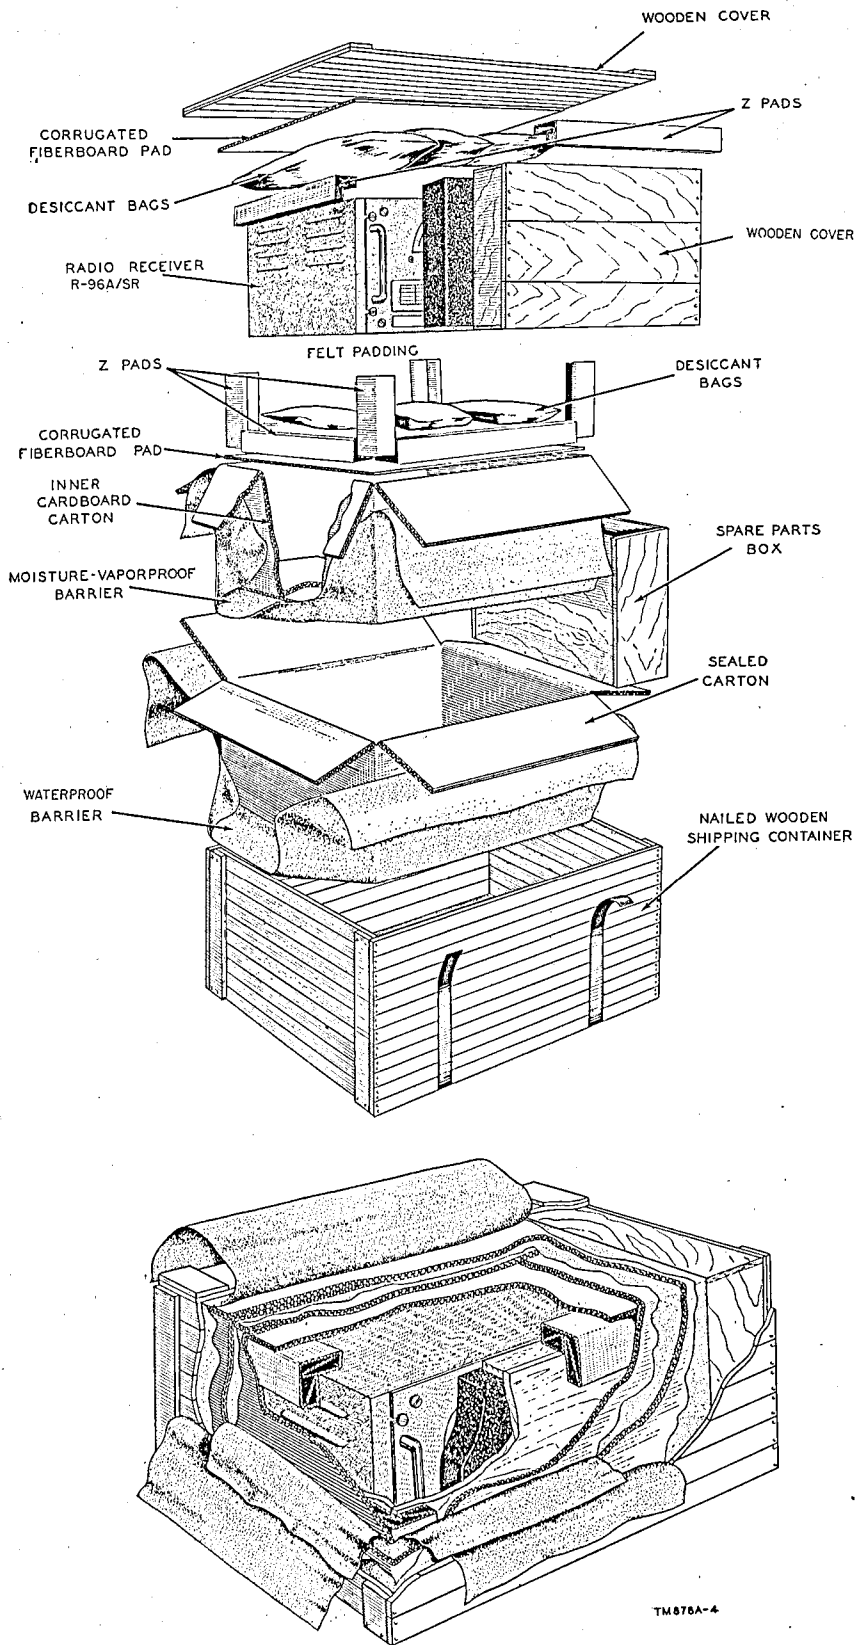

Figure 6. Packaging and packing Radio Receiver R-96A/SR.
a. DESCRIPTION. Radio Receiver R-96A/SR is packed in a nailed wooden shipping container; the size is listed in *b* below. Running spare parts are packed in an additional metal container, which in turn is packed in the large wooden box containing the receiver. The receiver is packed for export shipment as shown in figure 6. Z-pads and a wooden cover plate surround the receiver along with six silica gel pads. These are packed in a corrugated fiberboard inner carton which is sealed. This carton then is placed in a moisture-vapor-proof barrier, which in turn is sealed and placed in an outer fiberboard carton. The outer fiberboard
Caution: This radio receiver and the spare parts may be easily damaged during the unpacking process. Be extremely careful not to drop or damage the units. Avoid thrusting pinch bars or any other unpacking tools, such as a screw driver, into the interior of any fiberboard shipping container. Do not unpack in a location where dust, dirt, or excessive moisture may affect the equipment. Follow closely the unpacking instructions given below. Figure 6 illustrates the packaging of Radio Receiver R-96A/SR and its spare parts box.